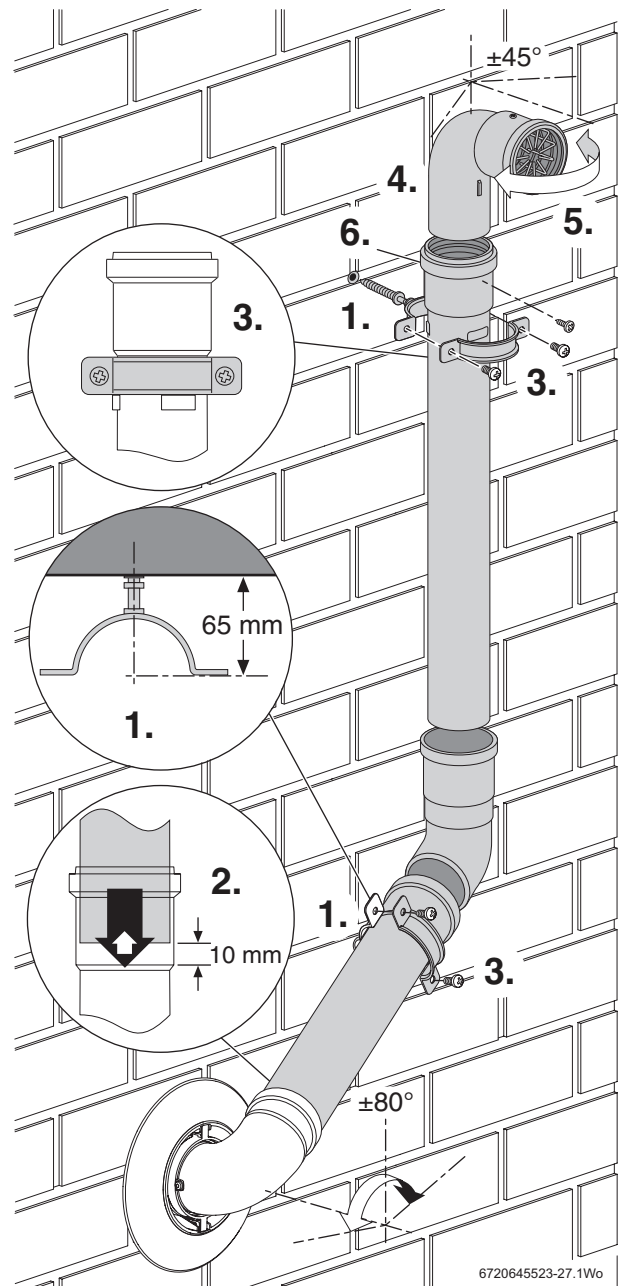

Fig. 47 Plume extensions
3. If required, rotate the 90° bend for angled fluing. Refer to figure 47 and assemble the plume extensions.